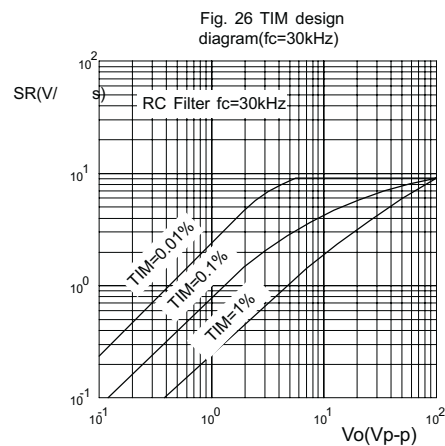

Fig. 26 TIM design diagram (fc=30kHz)
The Diagram of Fig.26 originated by SGS can be used to find the Slew-Rate (SR) required for a given output power or voltage and a TIM design target.